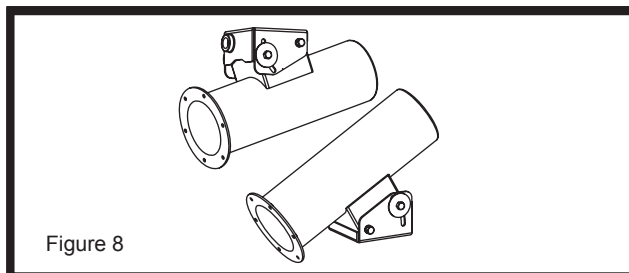

Figure 8
11. Run the incoming power wires through one of the strain reliefs, and the video cable through the other. Reattach the housing to the tilt bracket with the (4) hex head bolts. The housing can be mounted to the tilt bracket either right side up or upside down. (Figure 8)